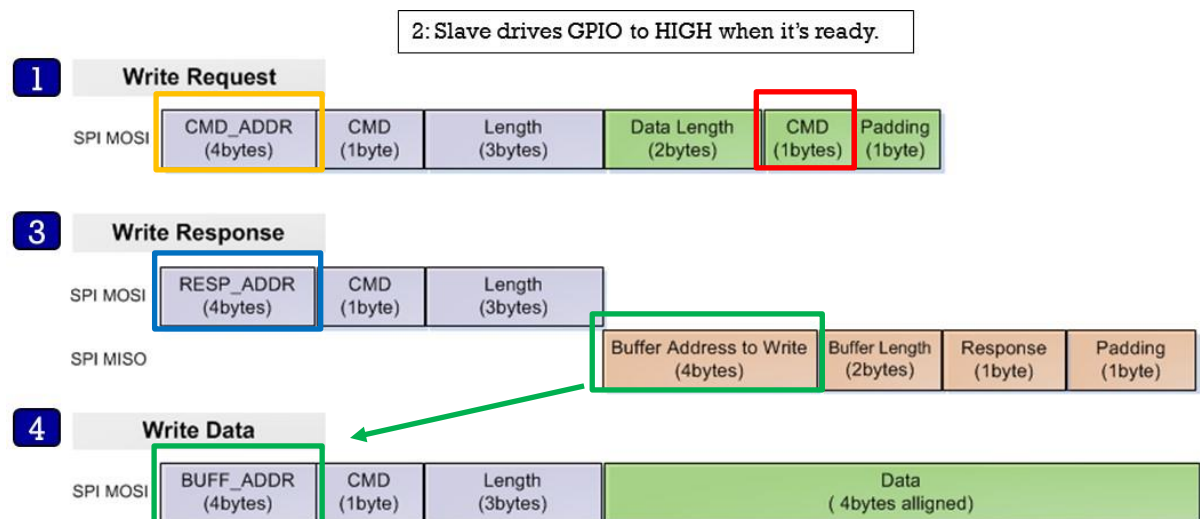

Figure 3: Structure
1. The Host sends a "WRITE\_REQ" command (0x80, red rectangle in Figure 3) to the "General Command" address (0x50080254).(yellow rectangle in Figure 3).
3. The Host reads the Write Response message by "Response Command" address (0x50080258, blue rectangle in Figure 3) and parse it using "struct \_st\_host\_response" (see Table 4) .
4. The Host sends data to address (BUFF\_ADDR) which is received from the Slave in the Write Response message.(Green rectangle in Figure 3).